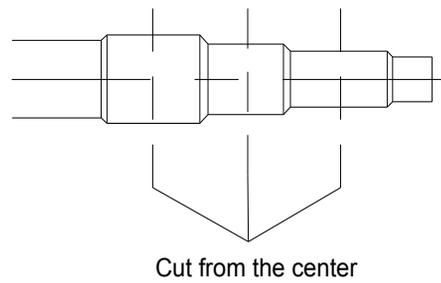

Fig. 4.3.3
(2) Manifold has several pipe sections with different pipe size, which facilitates to match with various copper pipe. Use pipe cutter to cut in the middle of the pipe section with different pipe size and deburr as well. See Fig. 4.3.3.